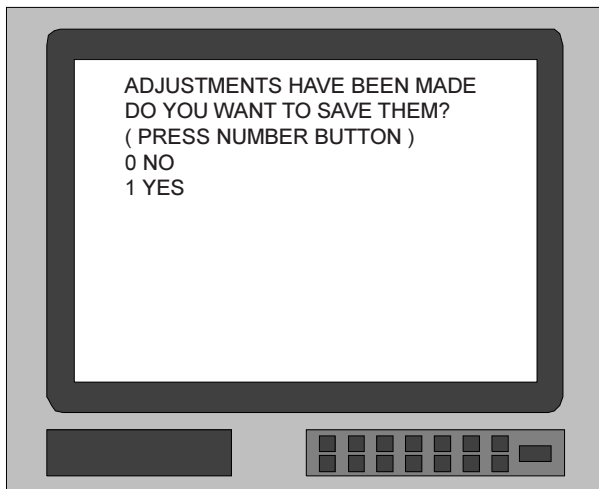

Figure 7
6. If adjustments have been performed, the Adjustment Acceptance Menu will appear on the Monitor/ TV screen asking if you want to save the adjustments in memory. Press number 1 for YES to save, or number 0 for NO to not save, and you will exit the Setup Mode back to normal operation. Refer to Figure 7.